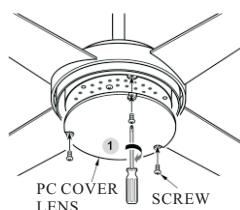

FIG.17
5. Install the pc cover lens with the screws previously removed in Step 2.(see Fig.17)